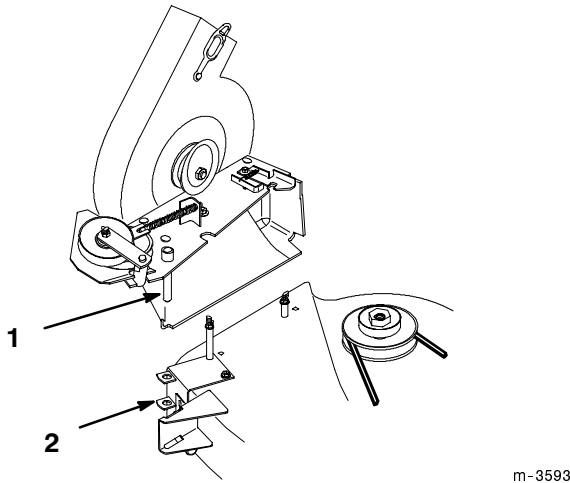

Figure 28
2. Remove the blower by lifting the pivot pin out of the pivot support (Fig. 28).